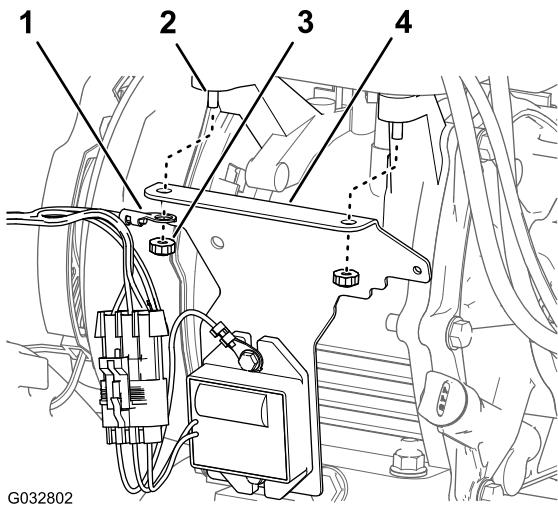

Figure 9
- **1800 or 2100 series machine**—At the back of the engine, remove the 2 nuts that secure the tank to the engine (Figure 9).
2. Align the ground terminal of the wire harness with the left hole short flange of the mounting bracket for the voltage regulator as shown in Figure 9.
3. Align the holes in the short flange of the mounting bracket for the voltage regulator with the rear studs of the fuel tank (Figure 9).
4. Assemble the mounting bracket and ground terminal to the engine with the 2 nuts that you removed in step 1 (Figure 9).